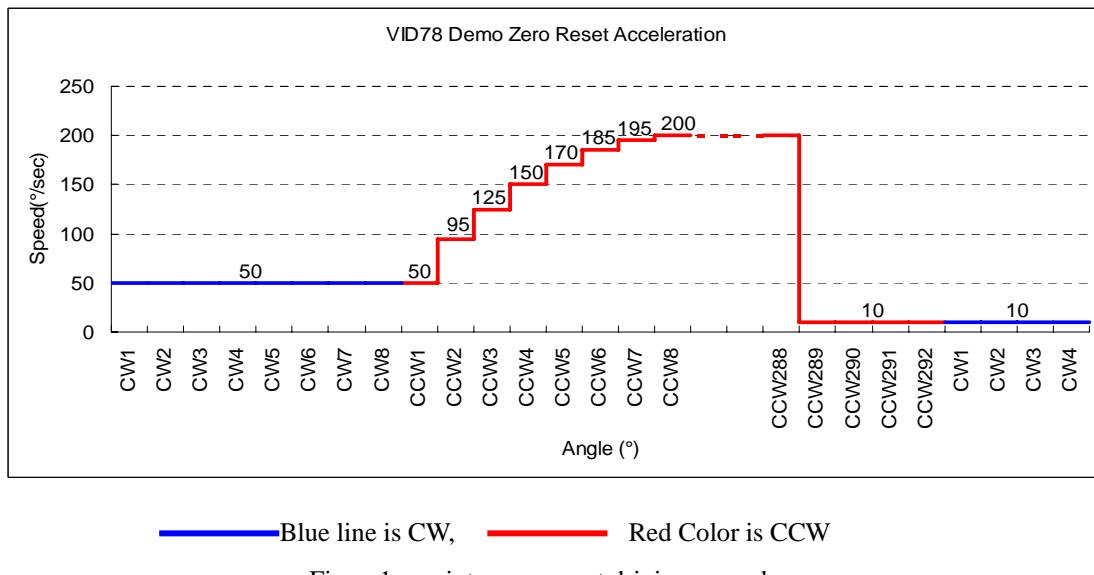

Figure1 – pointer zero reset driving procedure
- Motor Zero Reset driving procedure includes below steps(refer to figure 1):